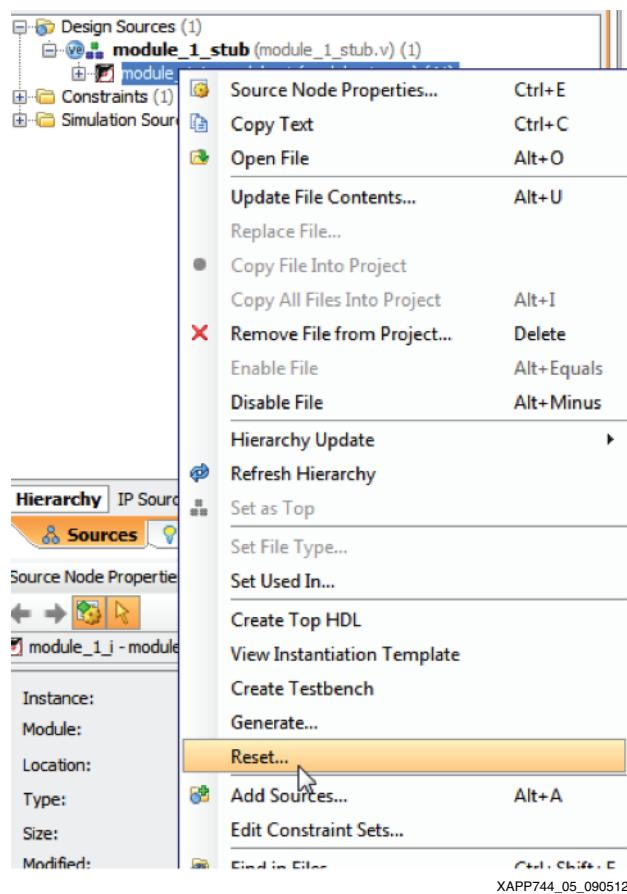
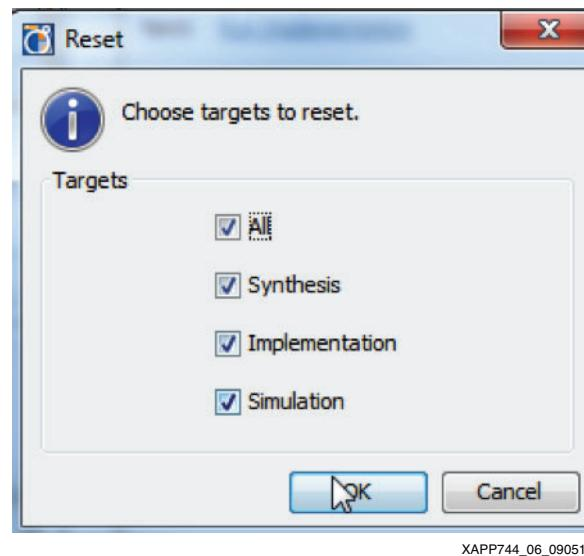

Figure 5: EDK Module Reset
Figure 6: Reset All Targets
2. Right click the EDK module as shown in Figure 5 and click **Reset**. Select **All**. Click **OK** as shown in Figure 6.